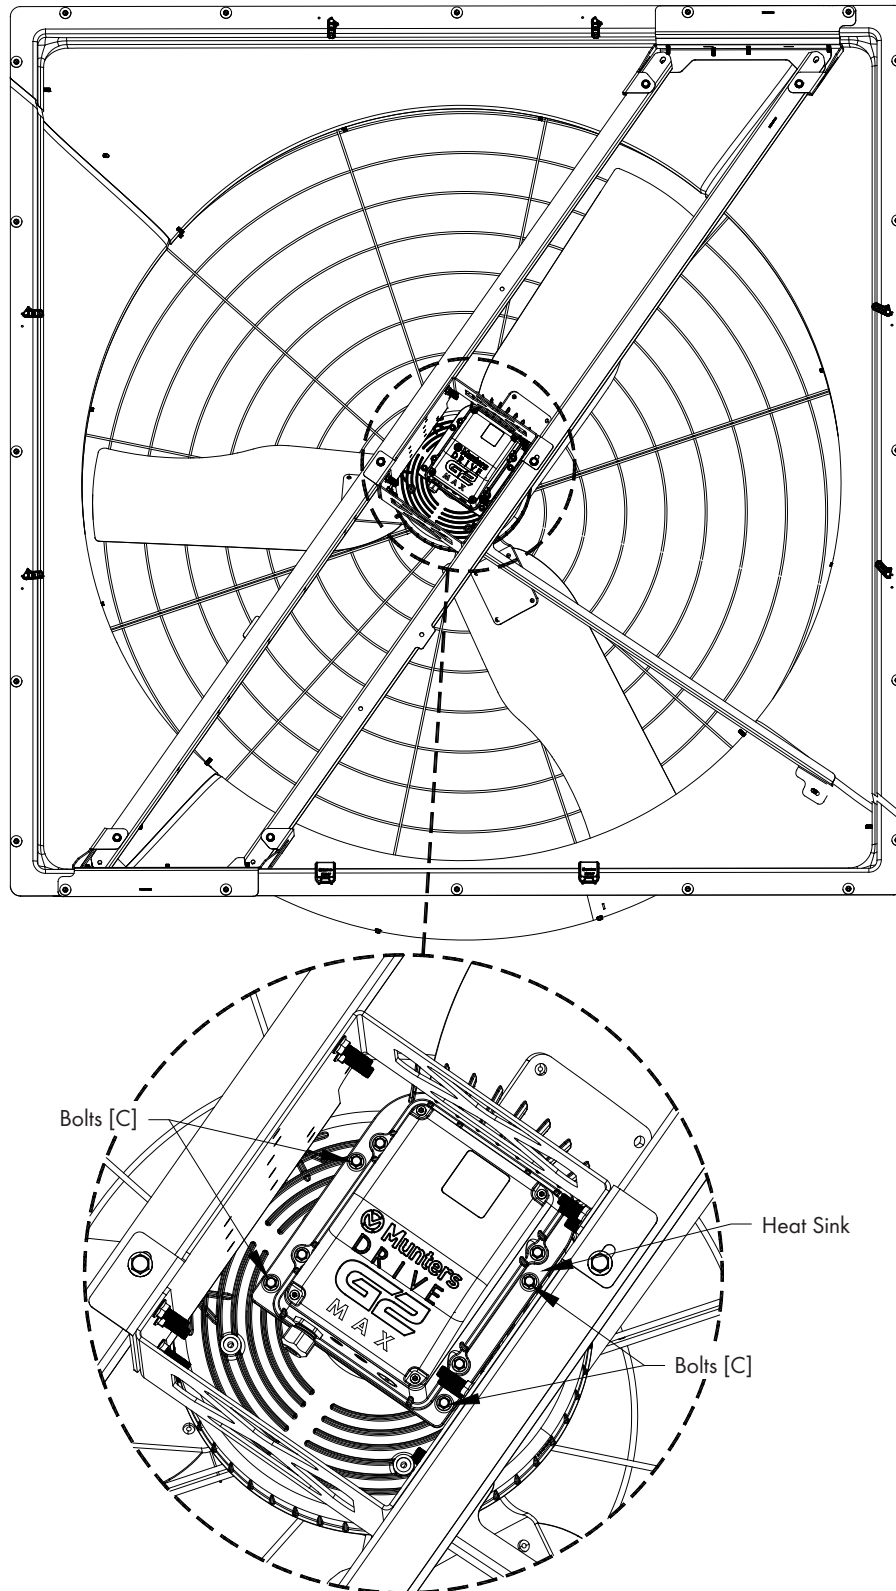

Figure 10
Align the Wiring Entrance and (4) mounting holes in the Heat Sink with the Wiring Entrance and (4) mounting holes in the back of the Munters Drive Motor and secure in place with (4) Bolts [C]. Tighten Bolts to 60 in-lbs. [6.8 N-m] of torque. See Figure 10.